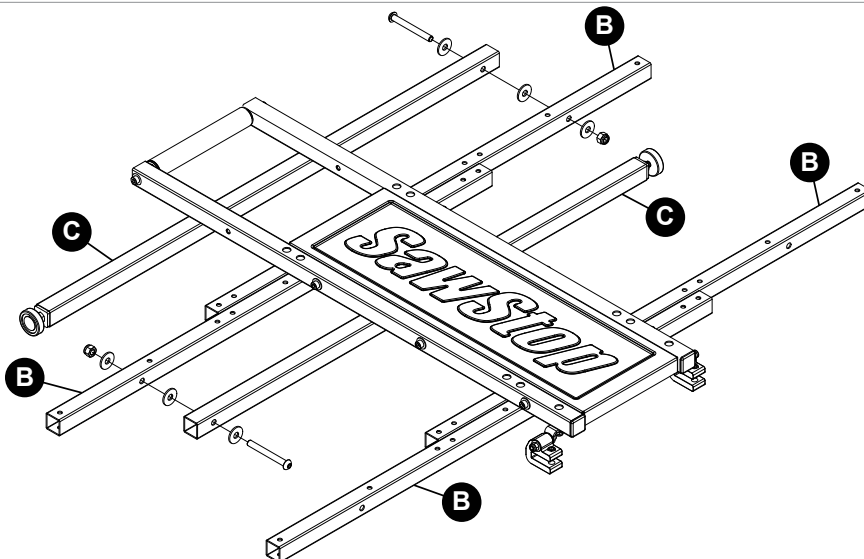

Fig. 22
- 14** Place one support leg (C) between the two sets of table support tubes (B), with the open end of the support leg on the left and the leveling foot extending toward the right (from the perspective of a user of the table saw).
Align the mounting hole in the top of the support leg (C) with the support leg mounting hole in the table support tube (B). Insert an M8 x 70 button head socket screw through an M8 x 20 washer, then through the exposed mounting holes in the support leg, another M8 x 20 washer, the exposed mounting holes in the table support tube, another M8 x 20 washer, and an M8 lock nut (see Fig. 22).
Repeat the process with the other support leg, but place the remaining support leg on the other side of the table support tubes (further from the table saw), with the open end of the support leg on the right and the leveling foot extending toward the left. Refer to Fig. 22 on page 24.